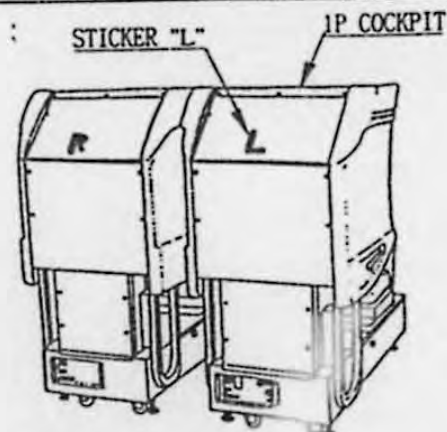

FIG. 6.1
- ① Place the two cockpits side by side. Position the 1P cabinet - which has the Eurosocket on the AC Unit - to the left as viewed from facing the monitor. Place the 2P cabinet to the right of the 1P cabinet as viewed from facing the monitor (fig 6.1).